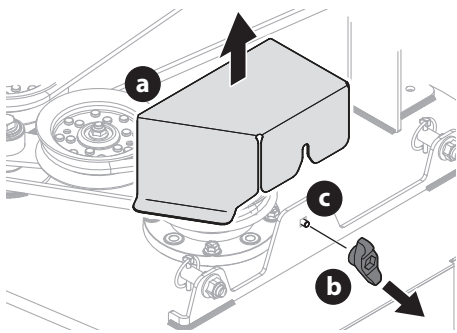
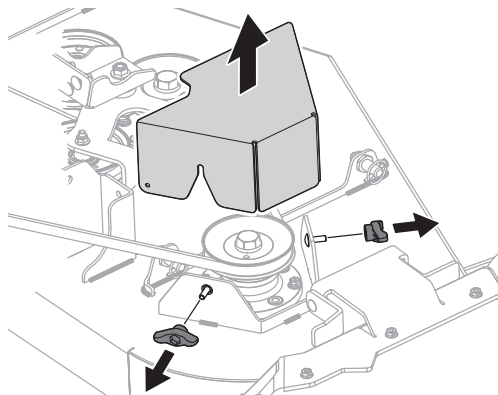

Fig. 17
Fig. 18
- Clean the top of the mower deck, under the spindle covers and belt area (Fig. 17 and Fig. 18).